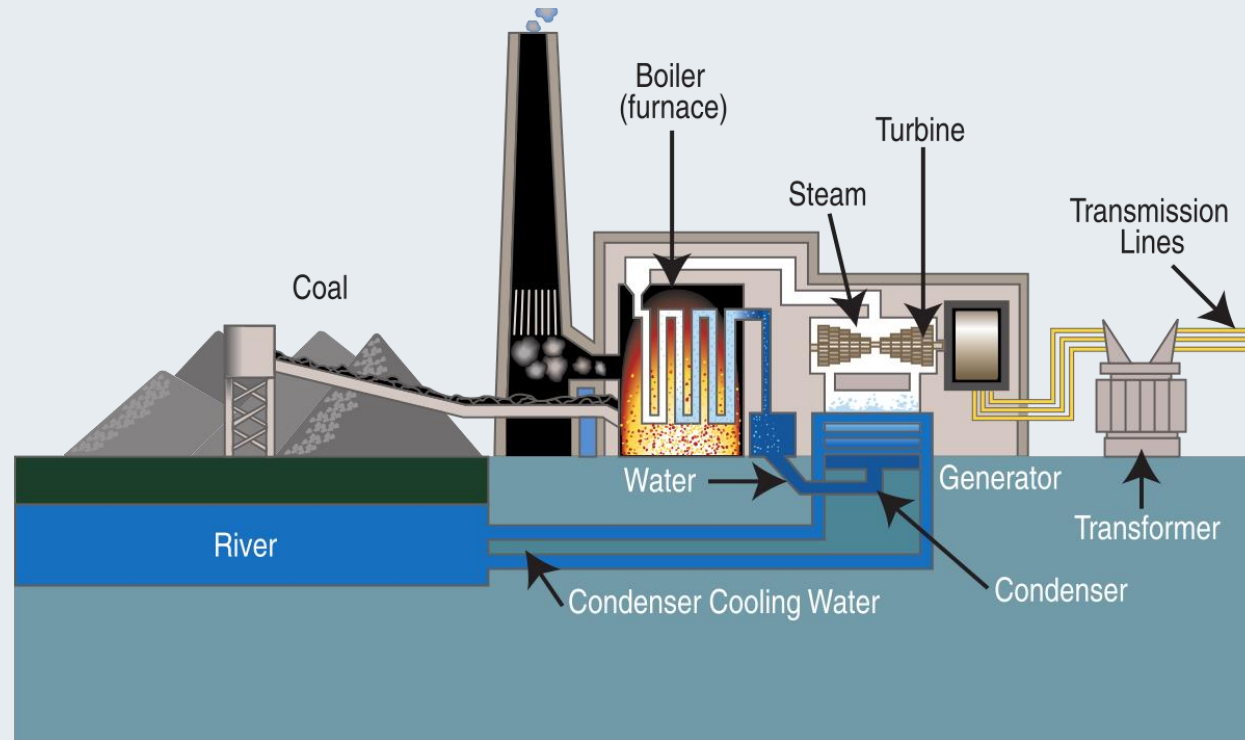

Figure 1. Thermal Power Plant Components.
- In analyzing the economic operation of a thermal unit comprising a boiler, turbine, and generator, input-output modeling is crucial for efficiency and cost management as presented in Fig.1.
Url. <https://www.researchgate.net/profile/Wahyuda-Wahyuda/publication/334056151/figure/fig1/AS:832198810796032@1575423066157/The-input-output-characteristics-of-power-plant.png>